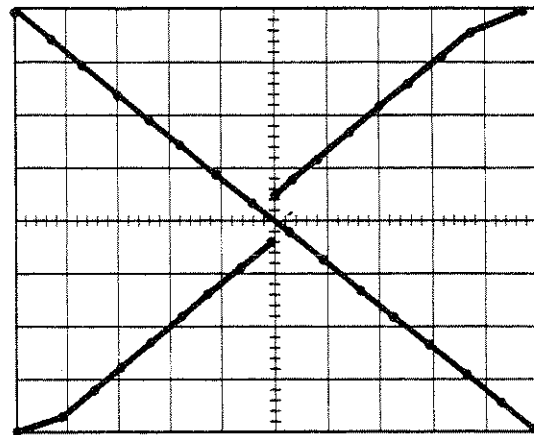

Figure 8-12. Oscilloscope Signature Analysis (SA) Test Pattern
3. Turn on the Noise Figure Meter. Adjust the oscilloscope horizontal and vertical positions and the Channel A and Channel B calibration controls to fill the oscilloscope display with the “X” type pattern as shown in Figure 8-12.